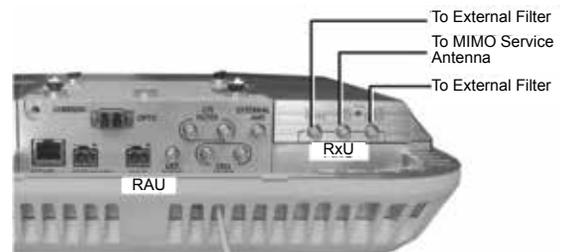

Figure 3. Assembled RxU Interfaces
- Step 4:** Replace the cover except for the front panel and screws, as shown in Figure 3
If required by site planner – connect the filter to the RF filter connectors on the RxU. Refer to Figure 3 for location of RAU and RxU filter connections.